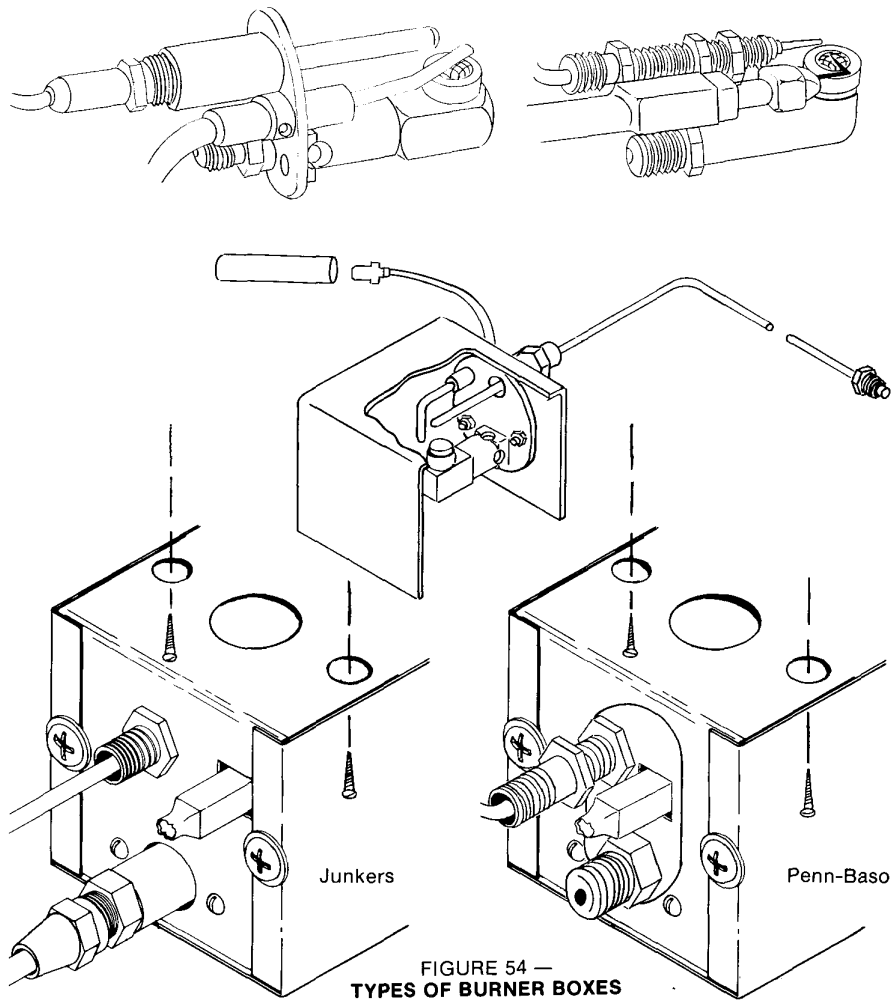

FIGURE 54 — TYPES OF BURNER BOXES
4. Lay the refrigerator face down. Remove the two Phillips-head screws holding the burner box cover and slide the cover off (toward the bottom of the refrigerator). Remove both round head machine bolts holding the box to the bottom of the cooling unit (**Fig. 54**).